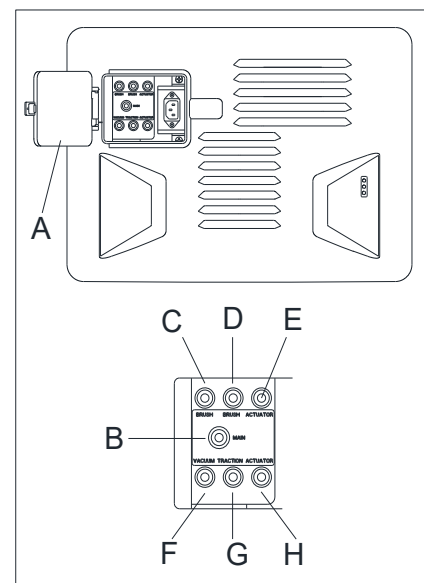

Figure 28
1. Open the waterproof cover (Figure 28, A)